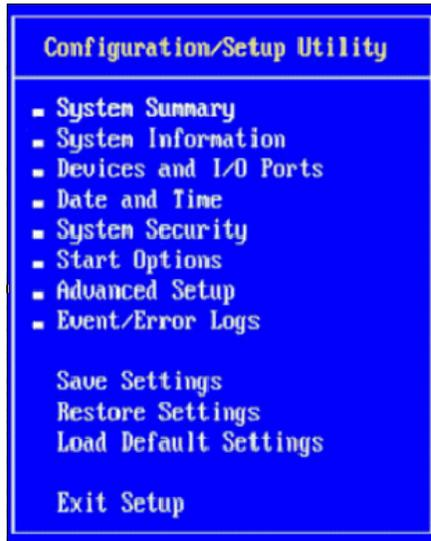

Figure 18-34 Selecting Start Options in Configuration/Setup Utility panel
3. Select **Start Options**, as shown in Figure 18-34.